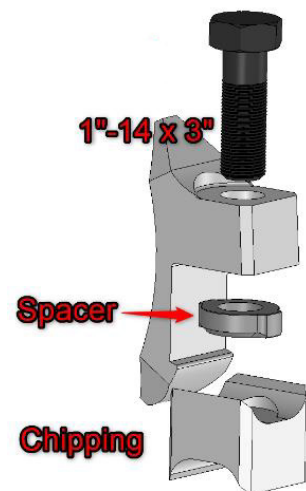

Figure 11
Chipping teeth are installed with a spacer. The spacer can sit only one (1) way. See Figure 11.
Bolts for chipping teeth are 3” (76 mm) long [Figure 11] and must be torqued to 400 lbf•ft (542 N•m).